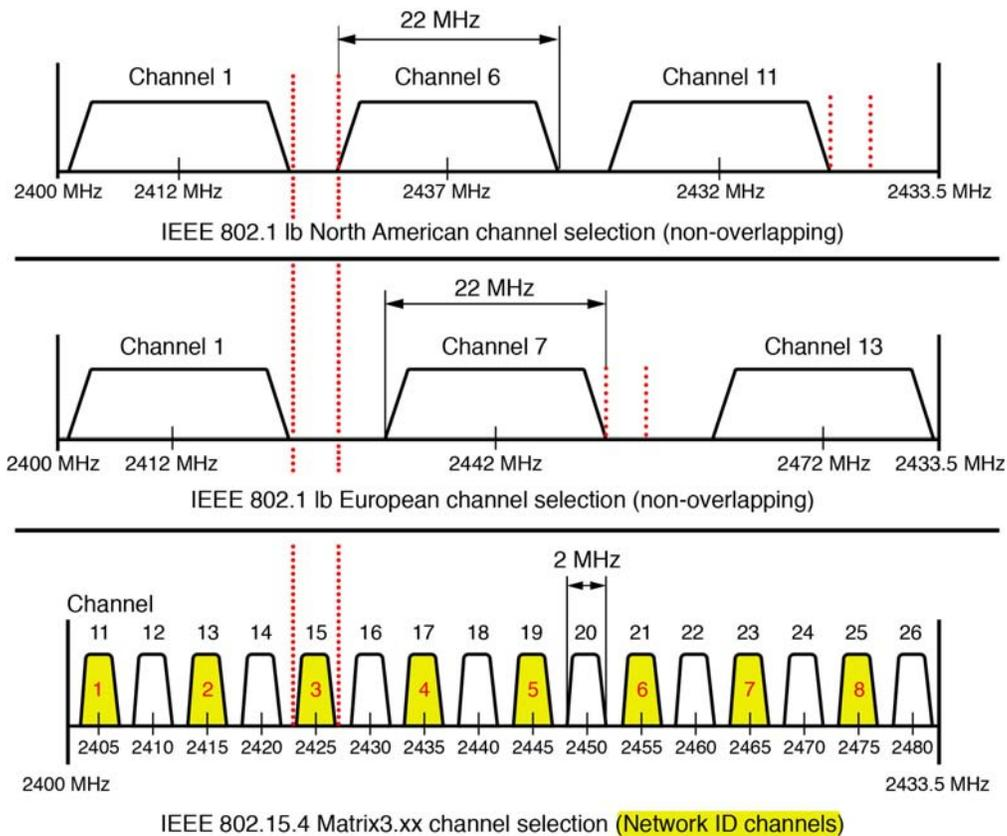

FIG. 98
Graco's Matrix 3 system provides 8 different frequency ranges (also known as "Network ID" numbers). The diagrams in FIG. 98 show the potential for overlap between the Matrix ID's and other radio frequency (RF) devices that may be operating in the vicinity.